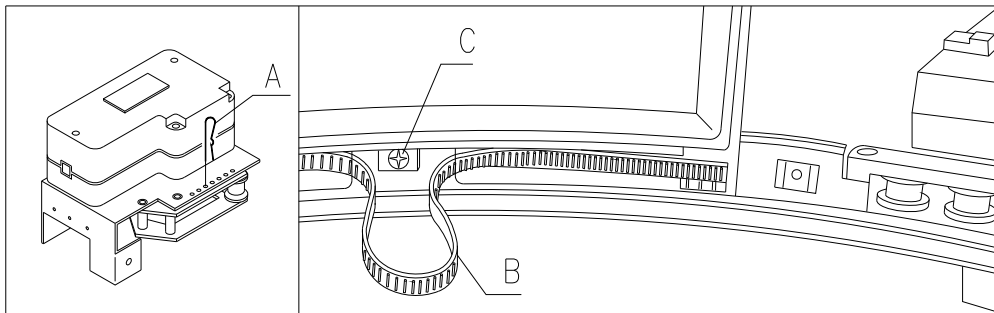
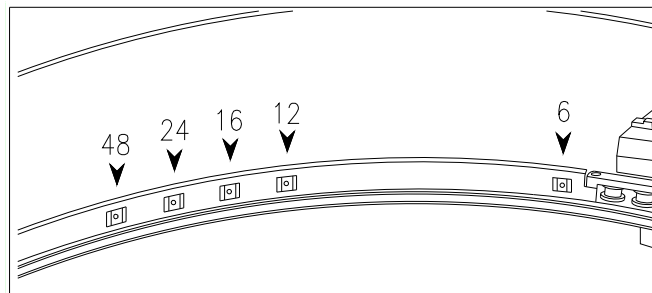

FIG. 12
FIG. 13
8.7 ADJUSTING OPENING OF THE DELIVERY DOORS FIG. 12 - FIG. 13
6. FIG. 13 illustrates the position of the stop in the various configurations: 6-12-16-24-48 compartments.